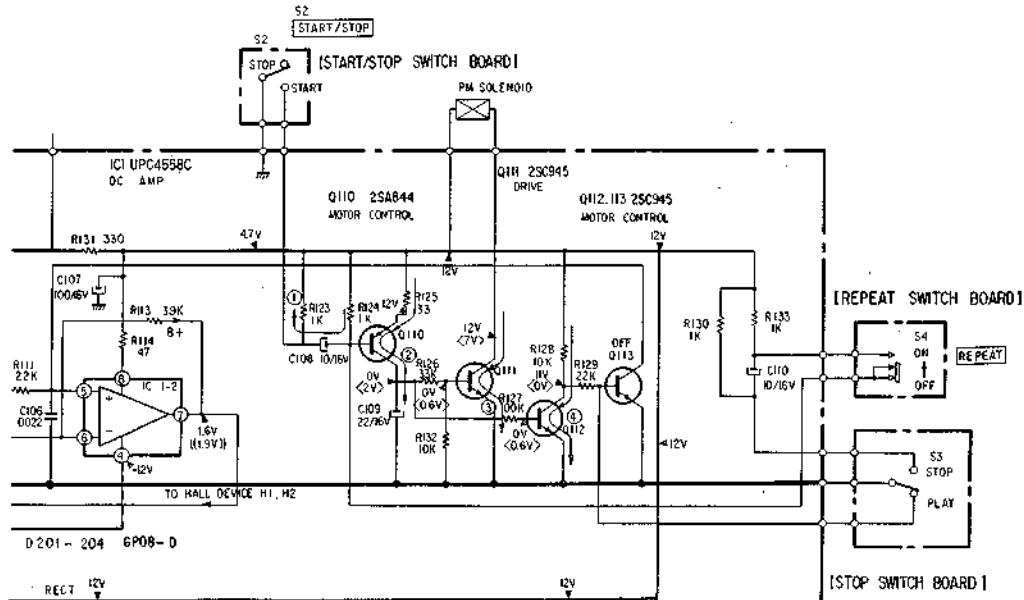

Fig. 1-15
1. START Operation (See Fig. 1-15)
- a. When the START/STOP switch (S2) is pushed, Q110, Q111 and Q112 conduct for a moment. This turns Q113 off and the solenoid (PM) on.
- b. A positive voltage is applied to the terminal ⑤ of IC1-2 by off-state of Q113 and the turntable starts rotating.
- c. The center gear is engaged with the pawl of drive gear by means of the solenoid (PM), and the drive gear starts rotating. (The tonearm moves toward the lead-in groove of the record.)